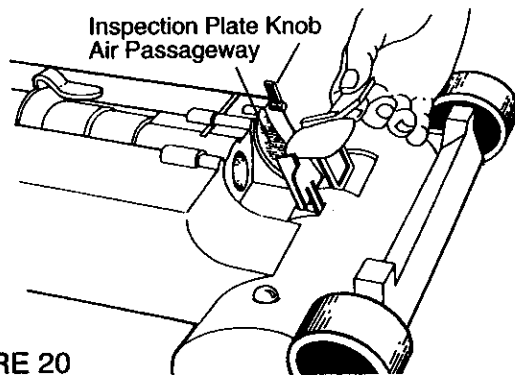

FIGURE 20
- Rotate the inspection Plate Knob out of the locked position and then swing the Rear Inspection Plate away from the rear of the machine. (Figure 20)